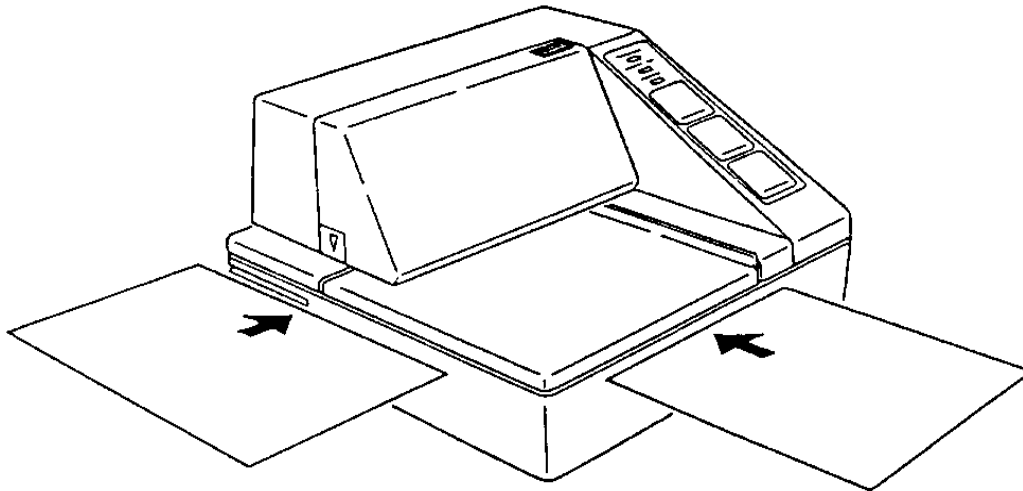

Figure 4.1 Paper Insertion
- 6 Insert the paper all the way into the printer until it contacts the form stopper. The form stopper helps locate the paper in the printing position. You can also align the printing position on the paper to the print position mark on the document table. Refer to Figure 4.1.